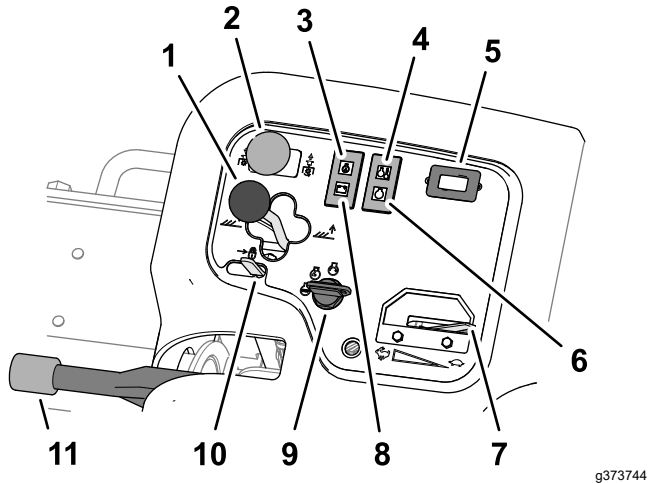

Figure 41
- To lower the cutting units to the ground, push forward the cutting unit shift lever forward to the LOWER position (Figure 41).
The cutting unit drive switch (Figure 41) has 2 positions: ENGAGE and DISENGAGE. The rocker switch operates a solenoid valve on the valve bank to drive the cutting units.
The oil pressure warning light (Figure 41) glows if the engine oil pressure drops below a safe level.
The temperature warning light (Figure 41) illuminates if the engine coolant temperature is high. At this temperature, the cutting units shut off. If the coolant temperature rises another 5.5°C (10°F), the engine shuts off to prevent further damage.
The hour meter (Figure 41) indicates the total hours of machine operation. The hour meter starts to function whenever the key switch is on.
The glow-plug indicator light (Figure 41) illuminates when the glow plugs are energized.
Move the throttle (Figure 41) forward to increase the engine speed and rearward to decrease the engine speed.
The alternator light (Figure 41) shuts off when the engine runs. If the alternator light illuminates while the engine runs, check the charging system and repair it as necessary.
Use the ignition switch (Figure 41) to run the engine and lights. The ignition switch has 3 positions:
Move the lift lever lock (Figure 41) rearward to prevent the cutting units from dropping.
Whenever the engine is shut off, engage the parking brake (Figure 41) to prevent accidental movement of the machine. To engage the parking brake, pull up on the lever; to disengage the brake, push down the lever.